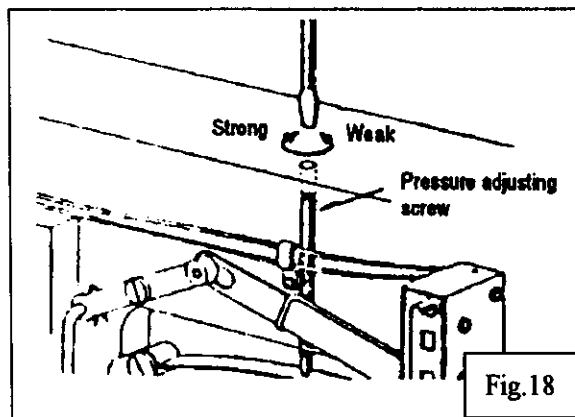

Fig.18
11) Adjustment of pressure of presser foot (Fig.18):